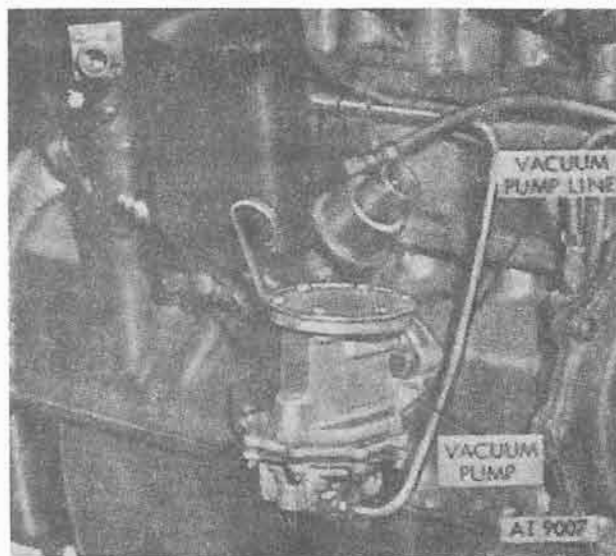

Figure 4-59. Vacuum pump (M151, M151A1, M151A1C and M718 vehicles).
a. *Vacuum Pump*—M151, M151A1, M151A1C, and M718 Vehicles (fig. 4-59). Disconnect vacuum line at vacuum pump. Remove pump and gasket from cylinder block. Discard gasket. Refer to TM 9-2320-218-20.